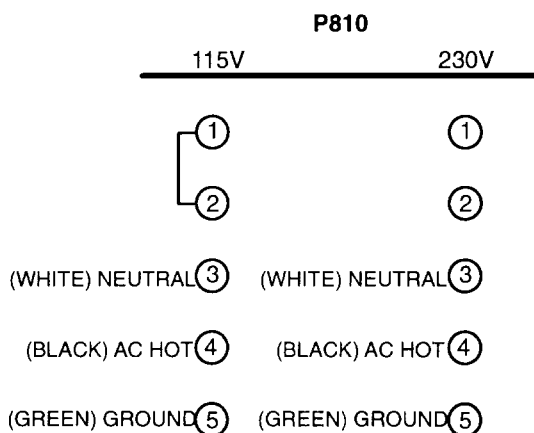

Figure 28 P810 Power Supply Terminal Strip
Step 3 Wire AC input connector as shown in Figure 28.